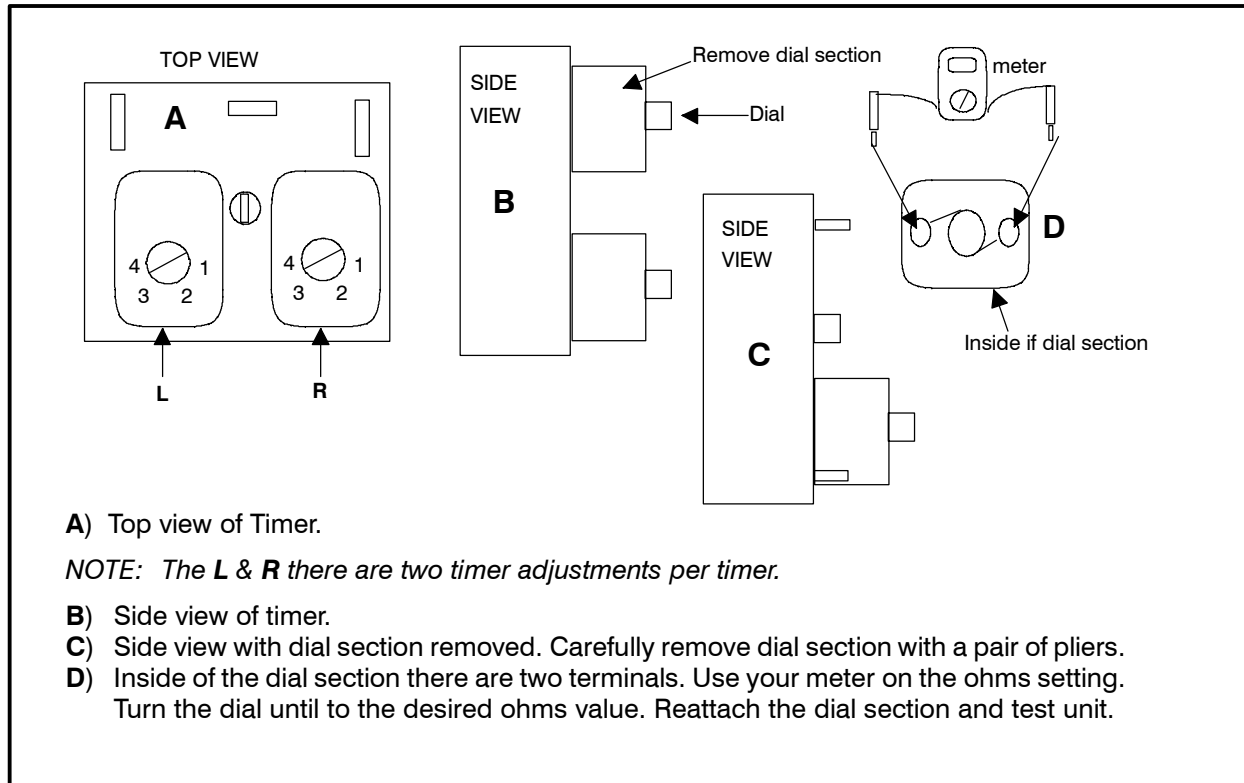

FIGURE 9
4. Check inputs and outputs of meat probe controller. See FIGURE 9, location (M).